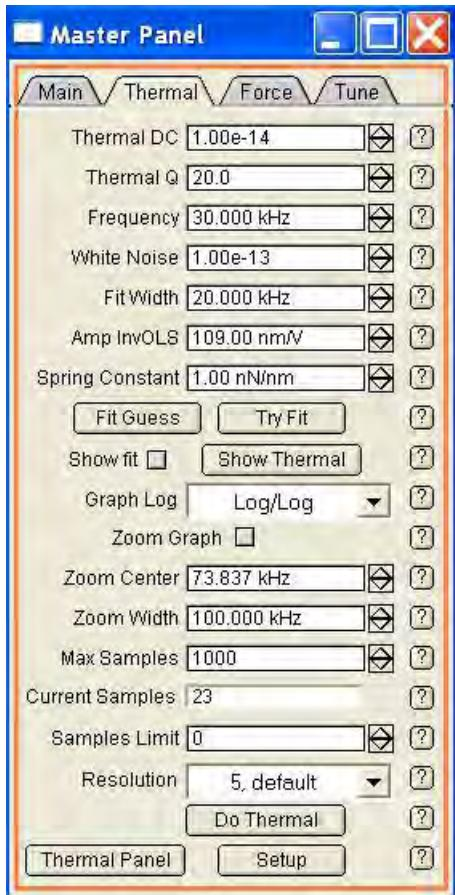

Figure 10.6 Master Panel, Thermal
- 1.** In the Master Panel, click the Thermal tab to bring it to the front of the window (See: Figure 10.6 Master Panel, Thermal)
- 4.** After a few tens of samples you will notice the graph does not change much. Click 'STOP THERMAL.' (See: Figure 10.6)